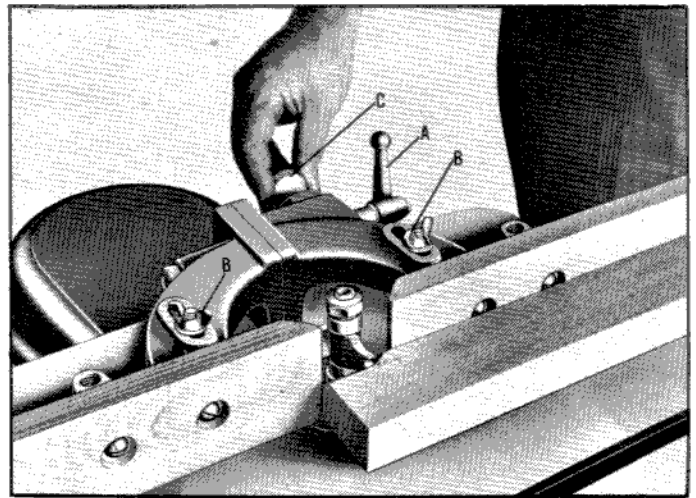

Fig. 18
Either half of the fence can be moved independently depending on the type of work you are doing. To move the fence, loosen the lock handle (A) Fig. 18, and loosen one of the wing nuts (B) depending on which fence half is to be moved. Turn the knurled knob (C) until the correct setting is obtained. Then lock wing nut (B) and lock handle (A).